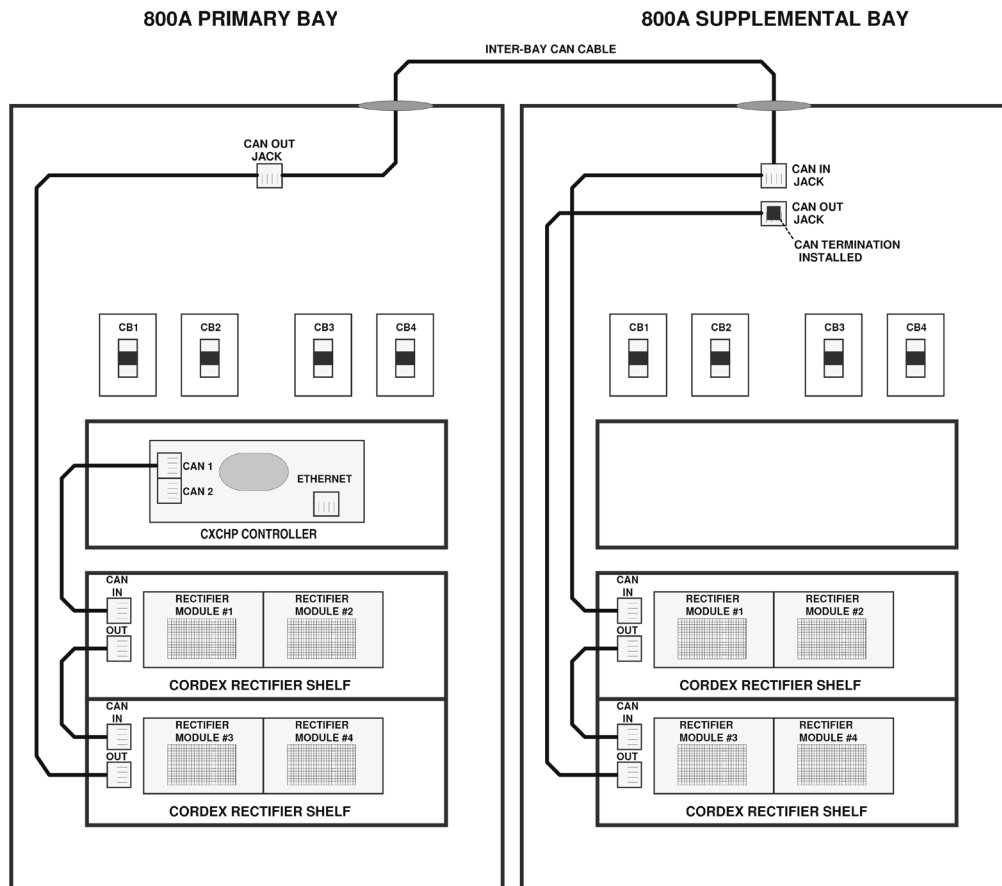

Figure 30 — Inter-bay CAN Communications
3. Refer to Figure 30. Route the inter-bay cable previously installed from the primary bay (section 7.5,) through the DC cable pass through in the supplemental bay.